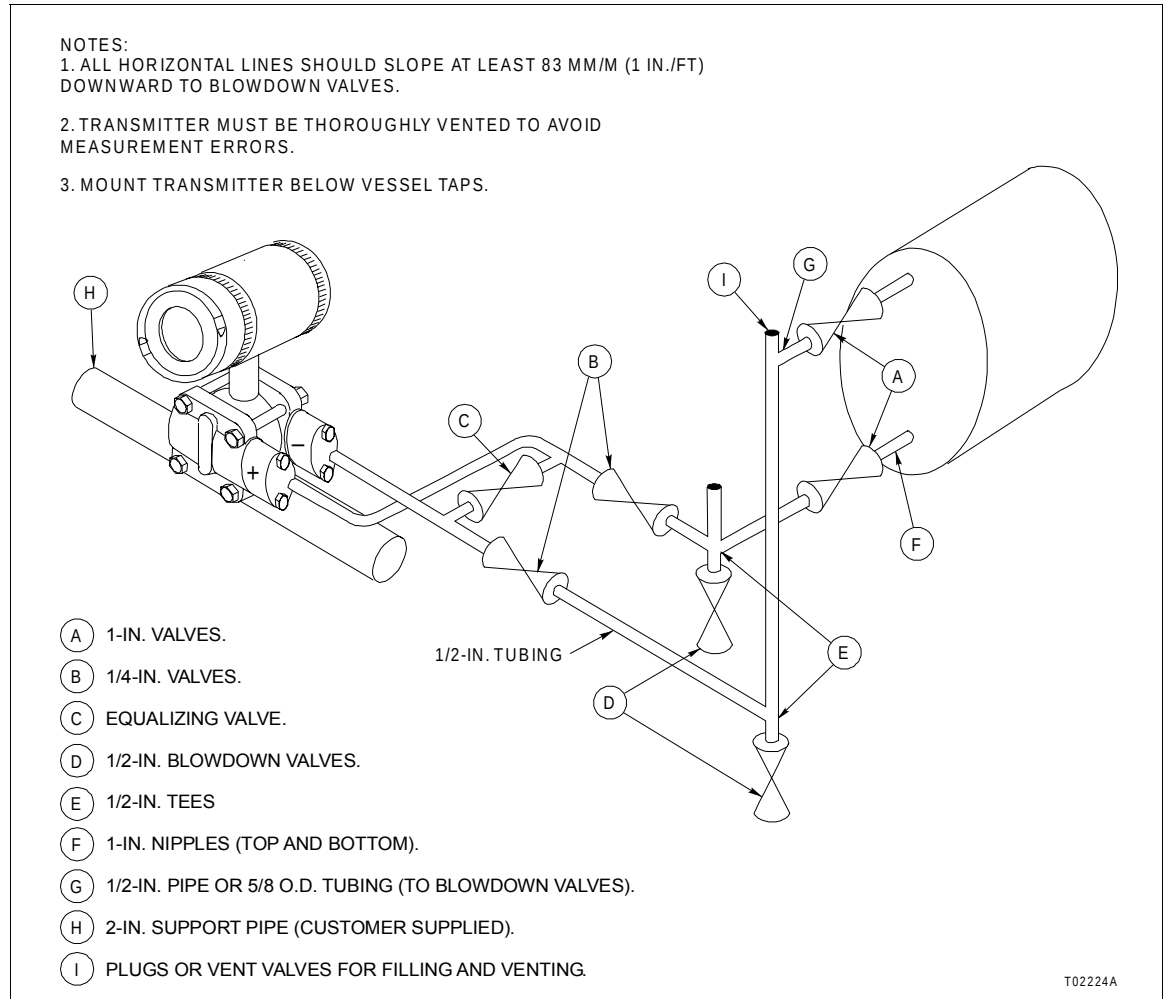

Figure 3-12. Closed Tank (Condensing Atmosphere) Level Measurement Piping
1. Figure 3-12 shows a typical piping arrangement for closed tank level measurements in condensing atmospheres.
4. Observe the conventions outlined in Figure 3-12.